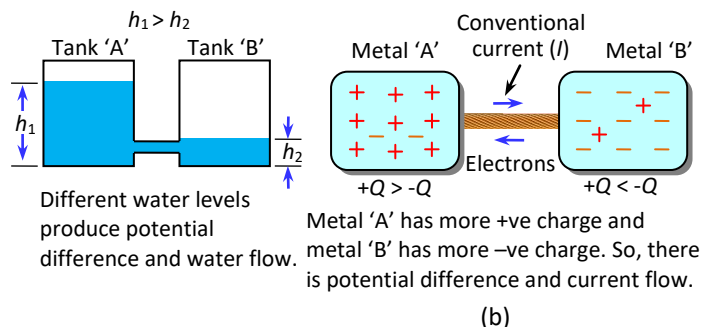

Fig.1-4: Concept of potential (a) Mechanical potential, and (b) Electrical potential
But as shown in Fig.1-4(a), the water level in tank 'A' is higher than that in tank 'B'. So, there will have a mechanical potential difference, and hence, water will flow from tank 'A' to tank 'B' (higher potential to lower potential). Similarly, by any mechanism, if the positive charges and negative charges of metal 'A' and 'B' [Fig.1-4(b)] are separated, there exists a potential difference. As shown in Fig.1-4(b), metal 'A' is at higher potential (higher positive charges) compared to metal 'B'. Therefore, positive charges will flow from metal 'A' to metal 'B' (actually electrons flow in opposite direction).
As shown in Fig.1-4(a), due to the potential difference between tank 'A' and 'B', water will flow through the pipe connecting them. Similarly, due to the
potential difference between metals 'A' and 'B', electric charge will flow from 'A' to 'B'. As positive charge cannot move, electrons will flow from metal 'B' to metal 'A' [Fig.1-4(b)]. The flow of charge will stop when the potential difference is zero. This flow of charge is called the **current**. Actually the rate at which the electric charges flow through a device/wire is called current. The unit used to measure the current is called **Ampere** (A). 1 ampere is equivalent to a flow of 1 Coulomb per second through the cross-section of a conductor or device [further discussed in Section]. Although current was originally thought to be a flow of positive charge, we now know that in most cases it is